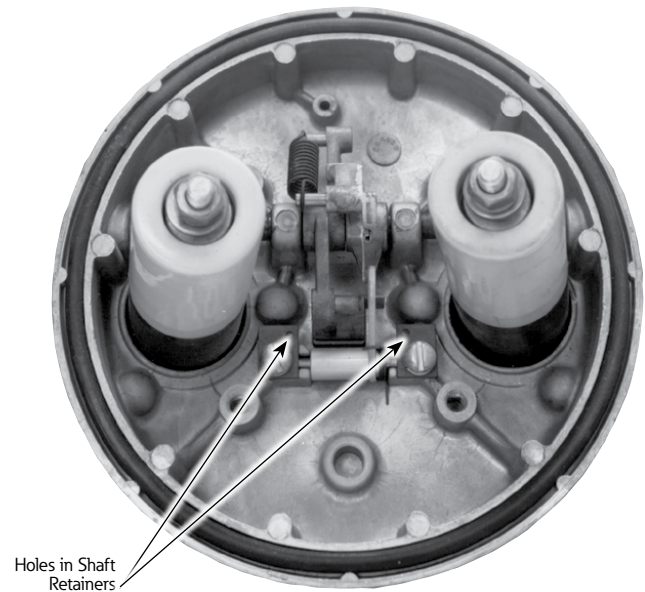

Figure 17. Correct position of shaft retainers.
- E. Hook the torsion spring on the latch lever assembly. Be sure the two shaft retainers are positioned as in Figure 17, and that the latch lever is retarded when moved away from the head casting.